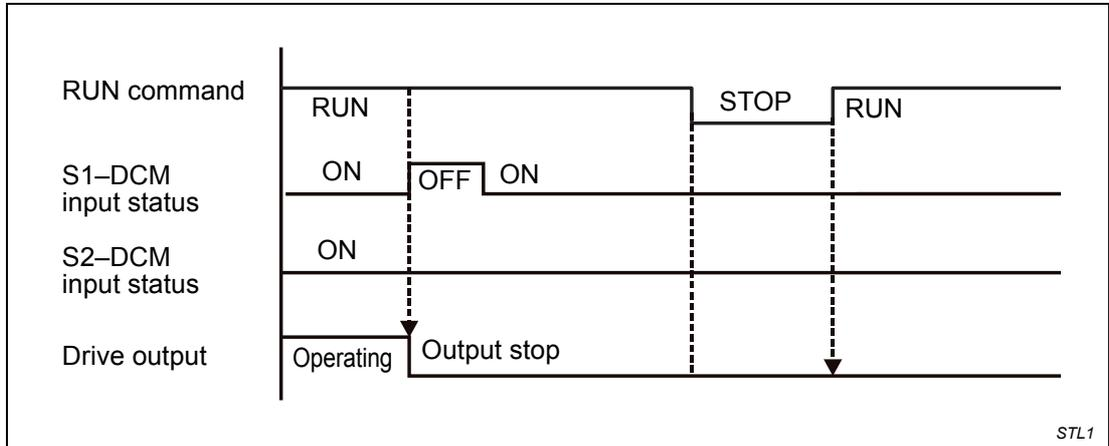

Fig. 12-8: Signal course when enabling STL1
As shown in fig. 12-8, when S1-DCM is OFF during operation (STO function is required) and S2-DCM is ON (STO function is not required), the drive stops outputting and the keypad shows the STL1 error. However, you cannot reset the STL1 error even if the S1 status is restored (ON) regardless of the parameter setting. You must cycle the power to reset and to restore the drive to the normal standby state.